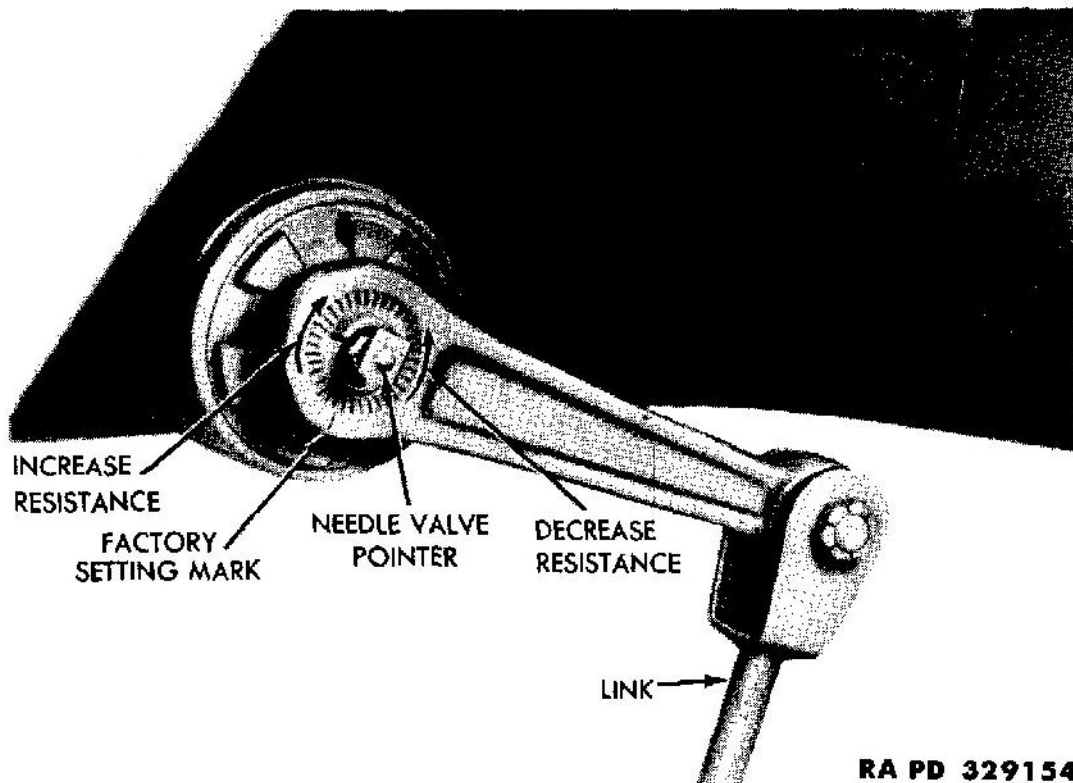

Figure 64 – Shock Absorber
a. The front and rear springs are of the semi-elliptical type. The front springs are equipped with a shackle at the front end and the rear springs are equipped with a shackle at the rear end. Each of the front and rear main springs has 12 leaves. An auxiliary spring is provided on the top of each rear spring. Four hydraulic shock absorbers are provided, one for each main spring (fig. 64).
a. **Adjustment** (fig. 64). A factory setting mark is provided on the shock absorber arm which indicates the correct adjustment for the average operating conditions. To increase the resistance, turn the needle valve pointer clockwise. To decrease the resistance, turn the needle valve pointer counterclockwise. This adjustment is very sensitive and, therefore, the needle valve pointer should not be moved more than one or two serrations at a time.
b. **Replacement** (fig. 64). Remove the nut from the bolt at the upper end of the shock absorber link and drive the bolt out of the link and shock absorber arm. Remove the two bolts which secure the shock absorber to the frame. Remove the shock absorber assembly. To install the shock absorber, place it in position on the frame and install the two bolts to secure it to the frame. Line up the link with the hole in the arm and install the bolt through the shock absorber link and the arm. Install the nut on the bolt, this nut is of the type which requires no cotter pin.